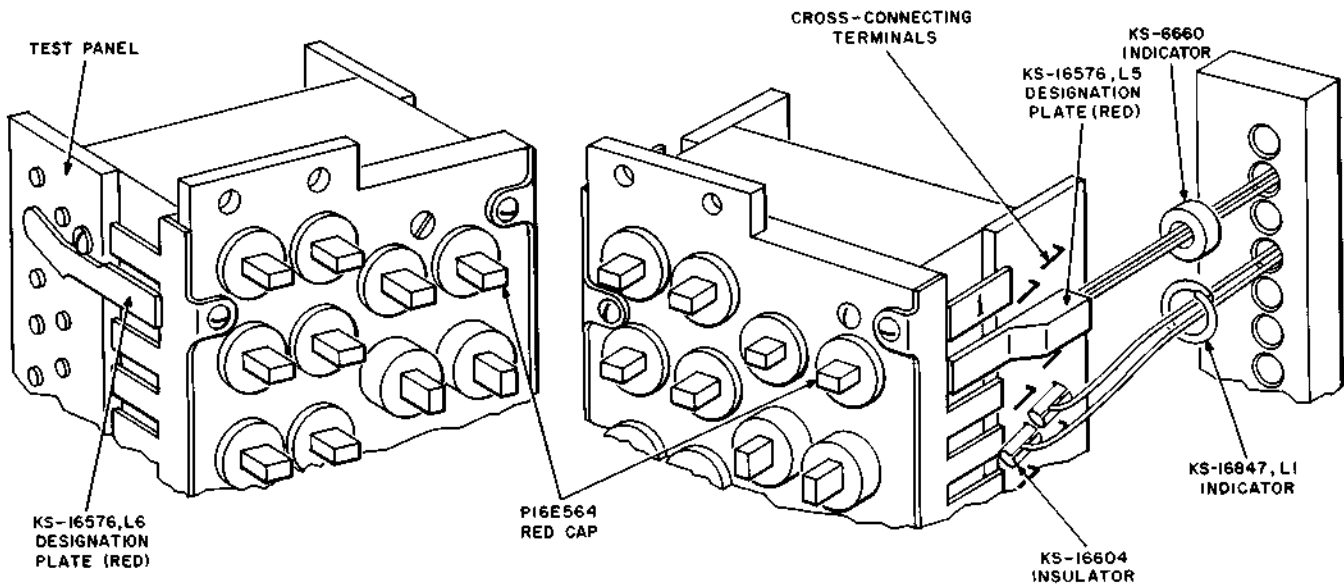

Fig. 29—Protection of Special Lines—300-Type Connector or the Replaced 121-Type Protector
16.08 On main distributing frames equipped with the 300-type connector or the replaced 121-type protector, the KS-16576 L5 and L6 designation plates (red) and the KS-6660 or KS-16847 L1 indicator are used to protect special lines. The L5 designation plate is for use on the cross-connection side of the connector. If the connector has aluminum fingers, the designation plate should be slipped on with movement toward the front. On connectors with molded fingers, the designation plate should be slipped on with movement toward the rear. The L6 designation plate is for use on the test terminal side. The P-16E564 red cap is used with the protector unit to indicate a special line and to forestall accidental opening of the line. (See Fig. 29).